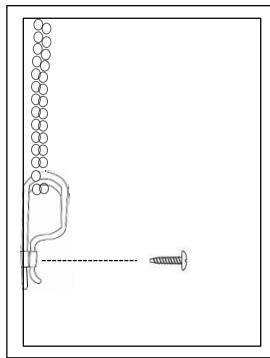

Figure 1
1. Position the tension device at the bottom of the chain/cord loop (Figure 1)